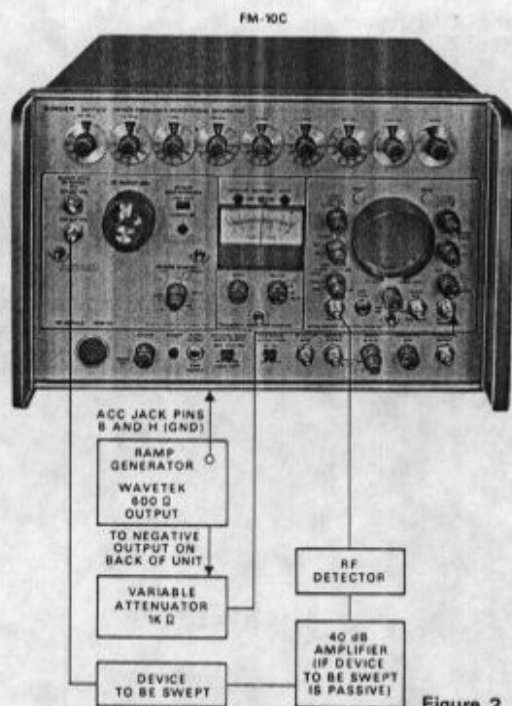

Figure 2
- Set up the equipment as in figure 2.